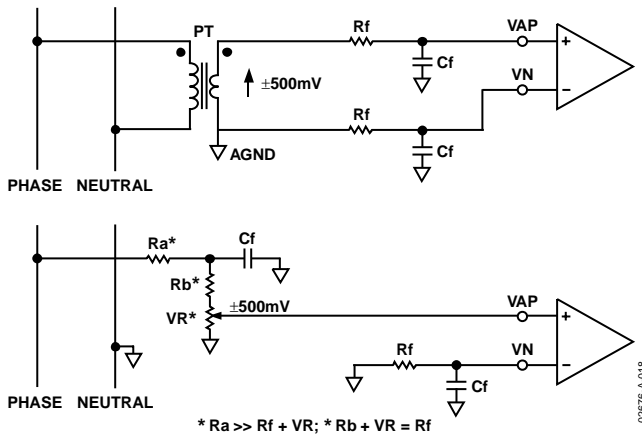

Figure 20. Typical Connections for Voltage Channels
Figure 20 shows two typical connections for the voltage channel. The first option uses a potential transformer (PT) to provide complete isolation from the main voltage. In the second option, the ADE7752 is biased around the neutral wire, and a resistor divider is used to provide a voltage signal proportional to the line voltage. Adjusting the ratio of R_a , R_b , and V_R is also a convenient way of carrying out a gain calibration on the meter.